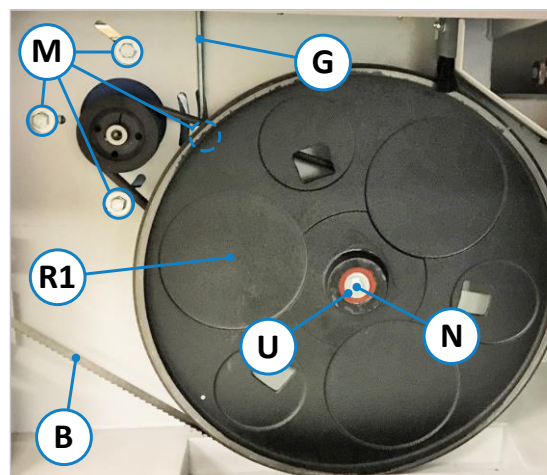

Figure 44: Replacing the V-belt(s)
- Turn off main switch (1) and lock it with a padlock.
- Slightly loosen the 4 screws (M) on the motor.
- Tighten the tensioning nut (S) on the threaded rod (G) with an open-ended spanner SW17 until the correct V-belt tension is achieved (see also ⇒ Figure 44).